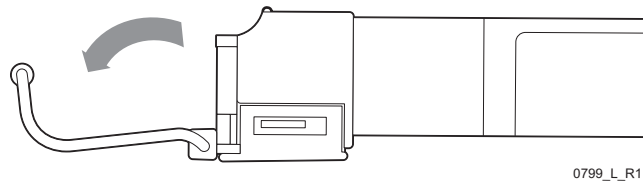

Figure 6-5. Lifting the SFP Retaining Clip
- a Lift the retaining clip and gently slide the SFP module out of the defective FCAL. (Figure 6-5)